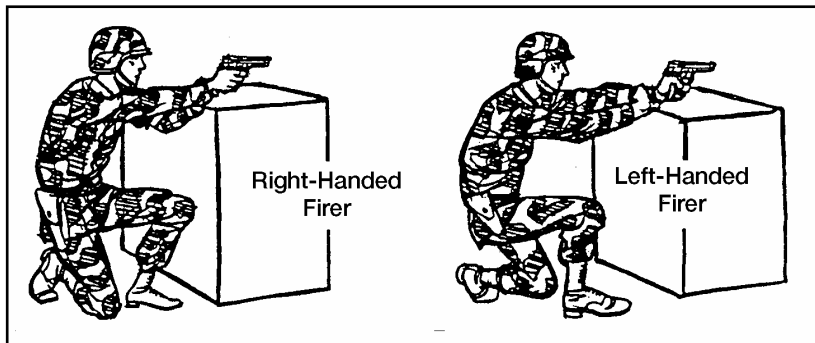

Figure 071-004-0006-8. Kneeling position
d. Standing-without-support position (figure 071-004-0006-9). To assume this position—
(1) Face the target.
(2) Place your feet a comfortable distance apart.
(3) Wrap your nonfiring hand around the fist or wrist of your firing hand. Lock the wrist and elbow of your firing arm toward the target.
(4) Keep your body straight.